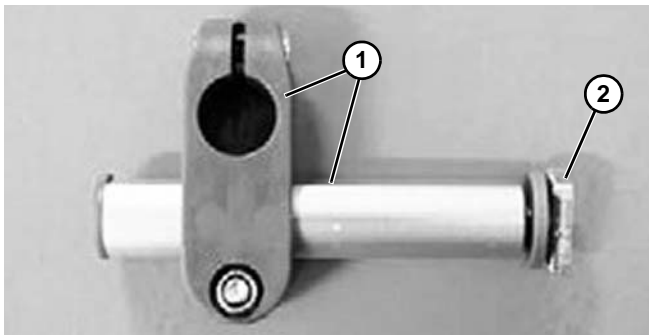

Figure 89
1. Fasten an adjustable guide rail bracket support (Figure 89, item 1) to the conveyor beam using T-bolt (Figure 89, item 2).